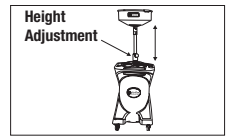

Figure 6
1. To raise or lower the funnel, loosen the funnel height adjustment knob and move the drain tube up or down to desired height (Figure 6).